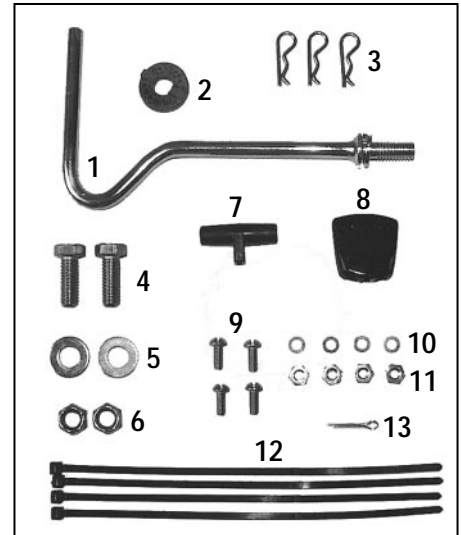

Figure 2-1: Loose hardware (see parts list).
3. A bag with loose hardware is inside the literature envelope. Check the contents against the following list and Figure 2-1. Contact your local dealer or the factory if any items are missing or damaged.